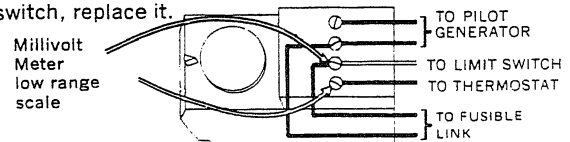

FIG. 17
2. With filter pump running, if connecting a jumper across the pressure switch (Fig. 17) brings the heater on, the contact points in the switch are open. This does not mean the switch is defective – check switch operation as follows: